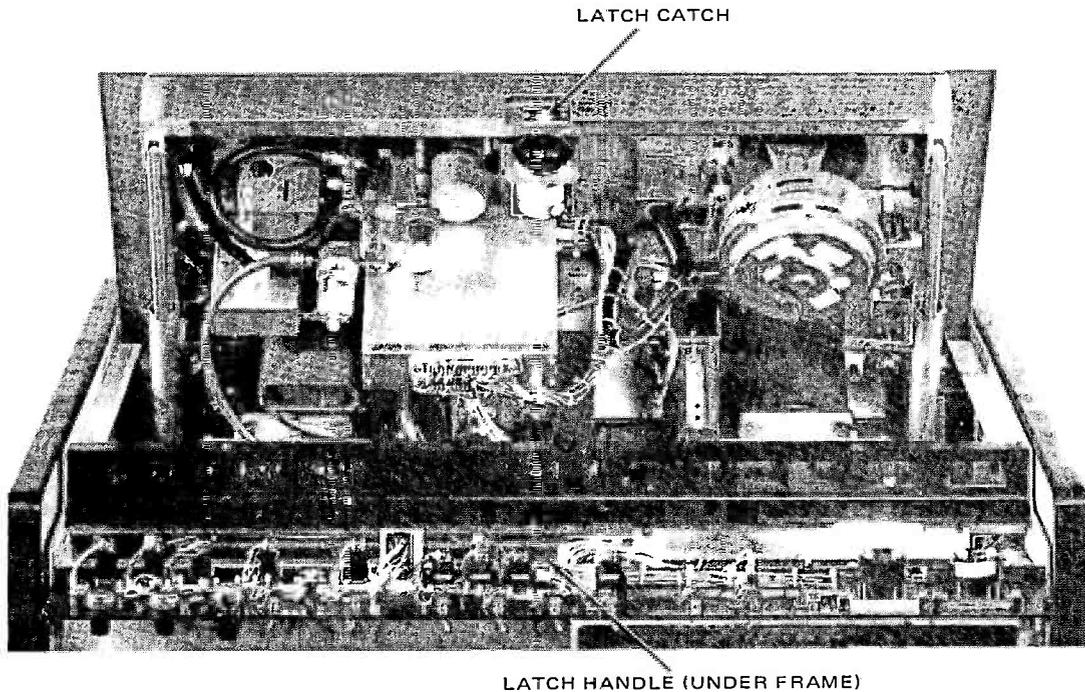

Figure 5-1. AVR-2 Tape Transport Tilted for Access to Underside
The AVR-2 tape transport can be tilted (see Figure 5-1) so that the underside of the tape transport is accessible from the front of the recorder. Extender cards and extended cables facilitate equipment servicing and maintenance.
3. Release the tape transport by pulling the latch handle down and to the right (See Figure 5-1). When released from the latch, the tape transport pivots (front of the tape transport rises) permitting access to the assemblies on the underside of the tape transport.